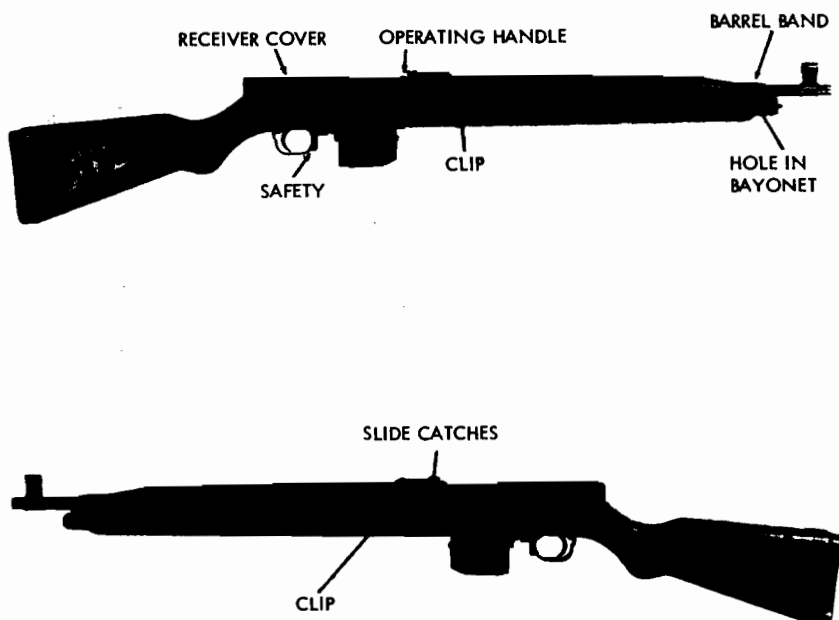

Figure 46. 7.62-mm Vzor 52 or Vzor 52/57 semiautomatic rifle.
(1) Combination tool kit.
(2) Sling.
(3) Charger clips.
(4) Standard Soviet-pattern 2-compartment oil-and-cleaning-solvent container.
b. The combination tool kit, except for its cap, is similar in appearance and use to the kit for the AK-47 assault rifle. When used as a cleaning-rod guide, the cap is twisted into engagement with the front-sight base. See paragraph 57b(1) for instructions on the use of this kit.
a. The Czechoslovak-designed-and-produced Vzor 52 and Vzor 52/57 semiautomatic rifles (fig. 46) are gas-operated, box-magazine-fed shoulder weapons and are equipped with permanently attached folding bayonets. The Vz 52 and Vz 52/57 rifles are obsolete in the Czechoslovak Army; however, large quantities of both weapons have been supplied to several Communist-aligned nations.
a. The Vz 52 and Vz 52/57 are identical in operation. These rifles can be loaded by any one of three different methods. In any case, the bolt must be drawn fully rearward by the operating handle (fig. 46) until the bolt is caught to the rear by the bolt catch; an empty magazine must be in place in the rifle to actuate the bolt catch. The three methods of loading are:
(1) Insert a 5-round stripper clip into the clip guides machined into the front of the bolt carrier; then, using thumb pressure, press the cartridges from the clip into the magazine.
(2) If clipped ammunition is not available, place individual cartridges in the magazine opening and press them into the magazine.
(3) If spare loaded magazines are available, press the magazine catch toward the magazine and, with a forward rotary motion, swing the empty magazine out of the rifle. Hold the loaded magazine slightly canted forward and mate the groove across its top front edge with the lip in the magazine well. Swing the magazine rearward until the magazine catch snaps into place.
c. If the Vz 52 is not to be fired immediately, apply the safety (fig. 46) by moving it rearward.
d. Set the rear sight for the desired range by pressing the slide catches (fig. 46) and moving the sight bar along the leaf until the front edge of the bar is alined with the line below the number that corresponds with the range in hundreds of meters. The Vz 52 and Vz 52/57 rifles have no battle-sight setting.
e. Press in on the clips (fig. 46) in front of the rear sight and lift the handguard off the rifle.
g. Use a punch or the point of a bullet to press in on the plunger underneath the hole in the bayonet (fig. 46) then slide the barrel band (fig. 46) forward. Lift the muzzle end of the barrel away from the stock and separate the stock from the rifle.